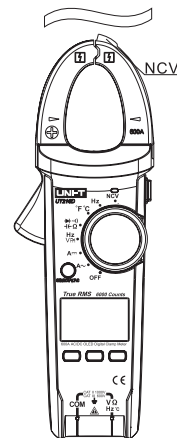

Fig. 12
11. Measurement of induced voltage (shown as Fig. 12)**(1) Set capacitance measuring function gear**